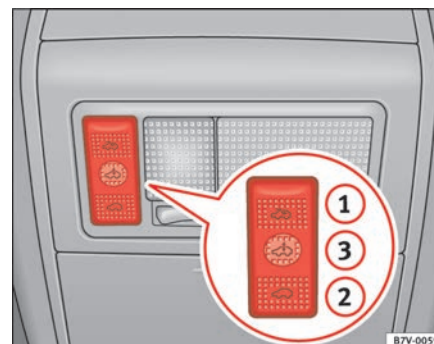

Fig. 66 Interior roof trim: control of sliding/tilting roof
- Press the surface ⇒ fig. 66 ①.
If the sliding/tilting roof has been opened again by the roll-back function, it can be closed only by pressing button ⇒ page 105, fig. 66 ③ until the sliding/tilting roof has closed fully. **The sliding/tilting roof then closes without the roll-back function.**